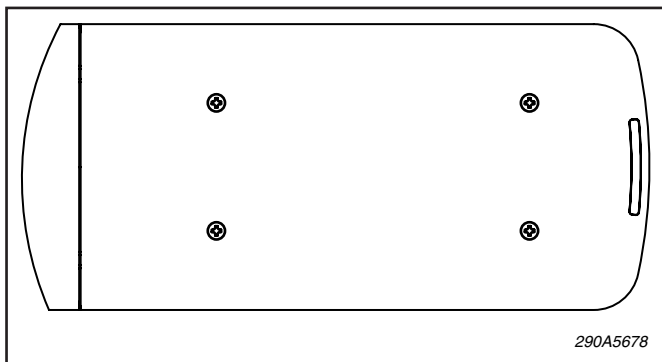

Figure 1.
A. *Top Removal (see figure 1).*